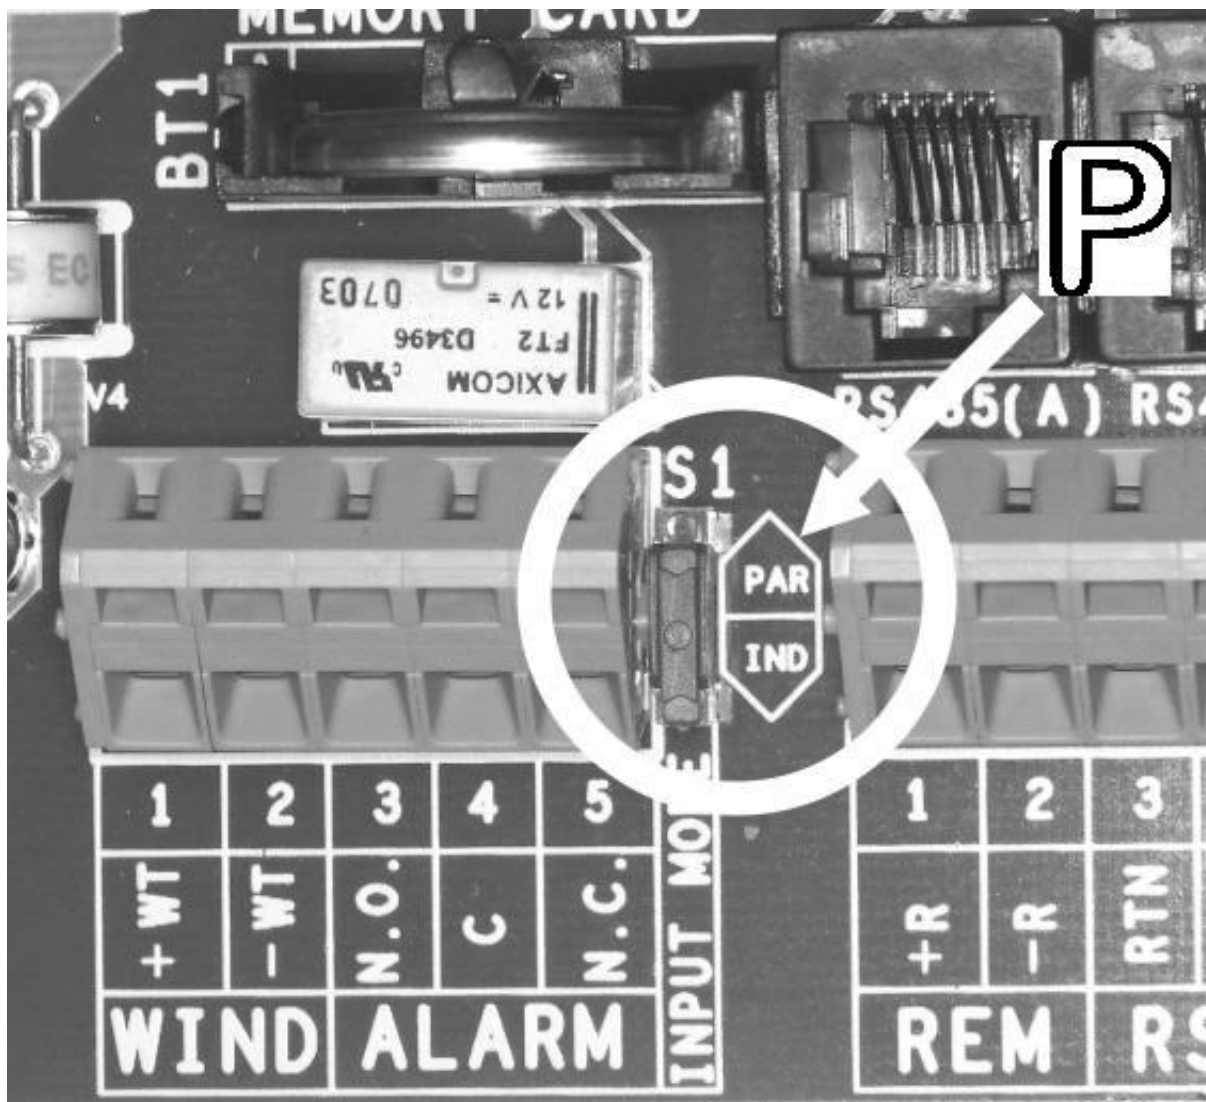

Fig. 14 - Inverter Parallel Mode Configuration
The cover of the Aurora inverter needs to be removed (Ref. Fig. 14 / screw pos. "A") in order to gain access to the terminal block board.
The switch “S1” should be placed to position “PAR” as shown in Fig 14 in order to configure the inverter in parallel mode.
Step 1: Remove the Switch Box front panel (remove the 4 screws in pos “B” of Fig. 10). Remove also the cover of the Aurora inverter (Ref. Fig. 14 / screw pos. "A") in order to gain access to the terminal block board.